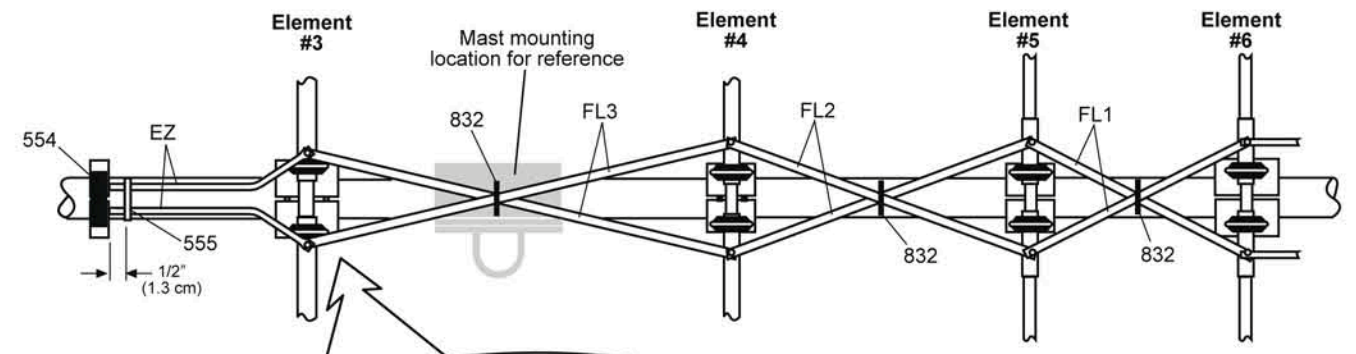

Figure 7
Reference Figure 7 and position the Tuning Tube Shorting Strap (555) 1/2 inch from the tuning tube insulator. Adjusting this strap will not have a significant effect on the VSWR of the X7. Tighten strap screws.
The feed system consists of 3 sub-assemblies. They are the feed-straps, the tuning-tube insulator and the matching network. Figure 7 illustrates the 3 pairs of feed-straps (FL1, FL2, FL3). Refer to the Feed System Subassembly Parts List for the hardware required to install the straps. Slide a feed-strap insulator (832) on to each pair of feed-straps to space and insulate the straps. Elements may be rotated slightly during feed strap attachment. Tighten Cush-A-Clamps on Elements #3, #4, #5 and #6.